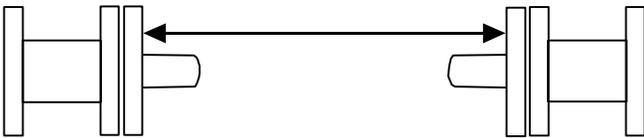

Figure 111: Measurement Location
- Access the Load End rail drive and tensioner assembly. Using digital calipers, measure between each pin chain side plate that is on the inside of the pin chain. This is the process width. Refer to Figure 111.